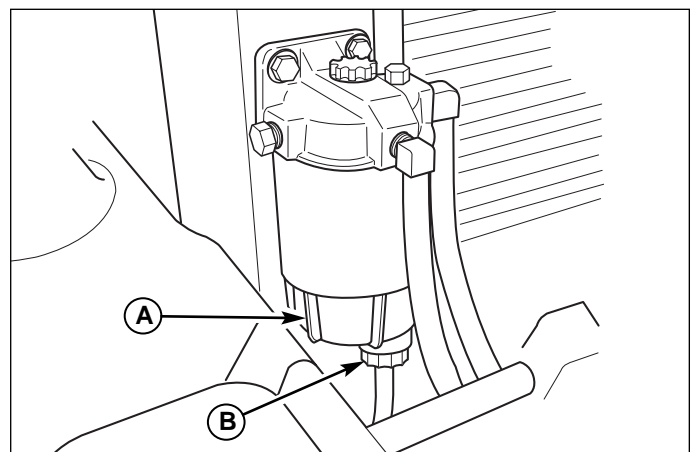

Figure 15. Drain Fuel Filter
3. Place a container under the fuel filter tube and turn the drain valve (B, Figure 15) approximately 1 turn.